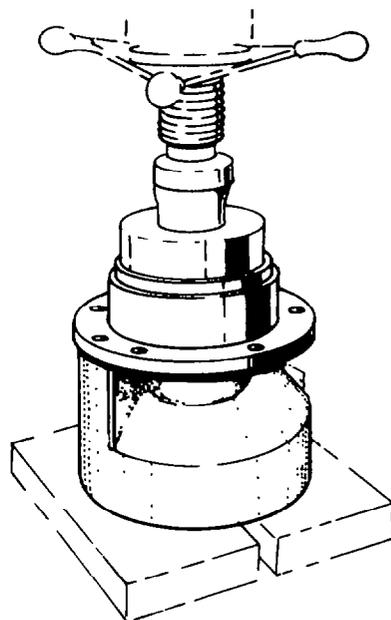

Fig. 309 — Installing Front Bearing Cup
- b. Install the front bearing cup into the bevel pinion housing, using a hydraulic press (see fig. 309). Then turn the housing over and install the rear bearing cup.